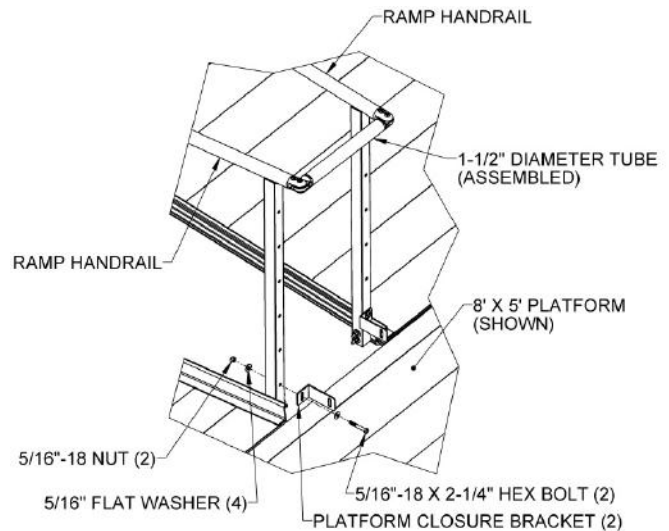

FIG. 5.22
- 5.7.10. Locate the platform closure brackets and attach the short leg of the brackets to the lower holes in the ramp posts with 5/16"-18 x 2-1/4" hex bolts, 5/16" flat washers and 5/16"-18 nuts (FIG 5.22). Orient the brackets so the long leg is on the same side as and parallel to the bracket on the opposite side then tighten lightly (enough to hold the brackets against the posts but still allow it to rotate).
5.7.17. The 8' x 5' Vertical Picket Closure can only be used with the 8' x 5' platform. If the ramps have Vertical Picket or Horizontal Picket handrails, first remove the 5/16"-18 x 2-1/4" hex bolts and 5/16" flat washers from the uppermost rail and reinstall through the slots in the 8' x 5' Vertical Picket Closure brackets (FIG. 5.26). If the ramps have Single-Line or Two-Line handrails, use the included 5/16"-18 x 2-1/4" hex bolts and 5/16" flat washers with 5/16"-18 nuts inserted through the slots in the 8' x 5' Vertical Picket Closure brackets and the uppermost hole in the ramp handrail post in a similar manner to FIG 5.22.